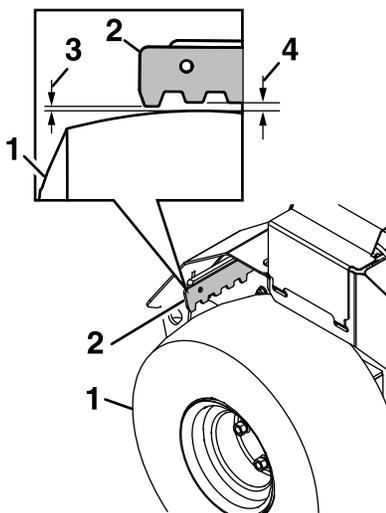

Figure 30
3. When the park brake is released, the brake bars should lift off the tires and the hand lever should travel forward. When the brake is disengaged, the gap between the brake snubber teeth and drive tire on the right side of the machine should measure 1/4–3/8 inch (6–10 mm) (see Figure 30).